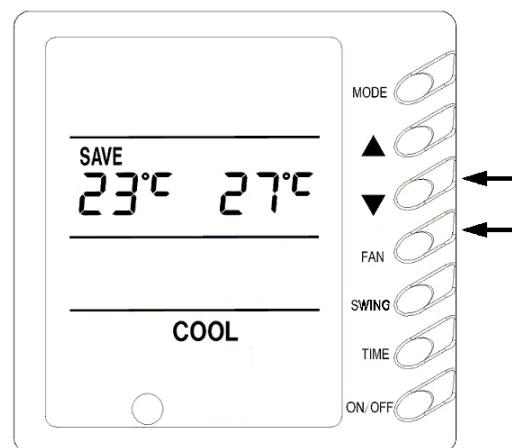

Fig.17
8) Energy Saving Setting (Fig.17)